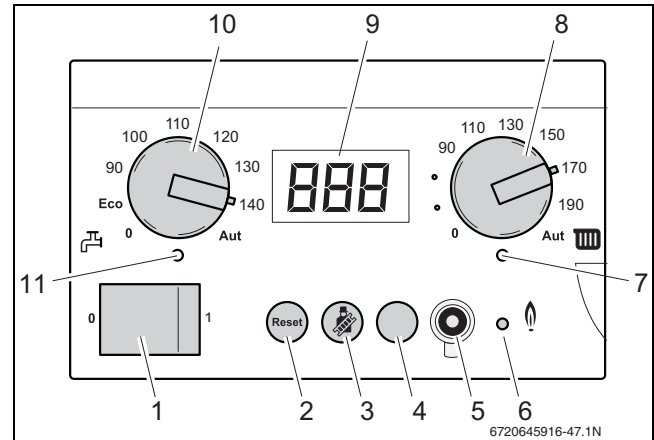

Fig. 65 BC10 basic controller
- Switch ON the appliance by pressing the main switch of the BC10 basic controller (→ fig. 65, [1]).
- Press and hold the "Chimney sweep" button (→ fig. 65, [3]) (approx. 2 seconds), until the dot in the right-hand bottom corner of the display (→ fig. 65, [9]) appears (→ table 12, page 31).
- After the LED "Burner operation" (→ fig. 65, [6]) has lit up wait for 1 minute until the boiler is burning at full load.
- Press the "Service" button (→ fig. 65, [4]) repeatedly until the temperature reading is shown in the display.
- Press the "Chimney sweep" button (→ fig. 65, [3]) to clear the reading (→ table 12, page 31).
- ▶ Switch OFF the heating system by pressing the main switch of the BC10 basic controller (→ fig. 65, [1]).
- ▶ Switch ON the heating system by pressing the main switch of the BC10 basic controller (→ fig. 65, [1]).
- ▶ After the LED "Burner operation" (→ fig. 65, [6]) has lit wait for one minute until the boiler is burning at part load.
- ▶ Press the "Chimney sweep" button (→ fig. 65, [3]) until the dot disappears from the display.
- ▶ Press and hold the "Chimney sweep"  button (→ fig. 65, [3]) (approx. 2 seconds), until the dot in the right-hand bottom corner of the display appears (→ fig. 65, [9]) (→ table 12, page 31).
- ▶ After the LED "Burner operation" (→ fig. 65, [6]) has lit wait for 1 minute until the boiler is burning at full load.
- ▶ Press the "Chimney sweep"  button (→ fig. 65, [3]) to clear the reading (→ table 12, page 31).
- ▶ Press and hold the "Chimney sweep"  button (→ fig. 65, [3]) (approx. 2 seconds), until the dot in the right-hand bottom corner of the display (→ fig. 65, [9]) appears (→ table 12, page 31).
- ▶ After the LED "Burner operation" (→ fig. 65, [6]) has lit up wait for 1 minute until the boiler is burning at full load.
- ▶ Switch OFF the appliance by pressing the main switch of the BC10 basic controller (→ fig. 65, [1]).